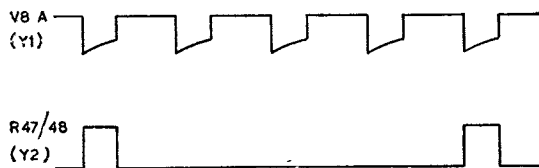

Fig. 44. Timebase unit Type 42 : divider control waveforms
- (3) Adjustment of the DIVIDER control on the front panel of the timebase unit will alter the ratio between the top and bottom waveforms. The setting in AMES Type 21 Mk. 5 is that for a ratio of 4 : 1; this will give a repetition frequency of 125 c/s for the IFF transmitter, the radar repetition frequency being 500 c/s. *Fig 44* gives the waveforms to be expected.